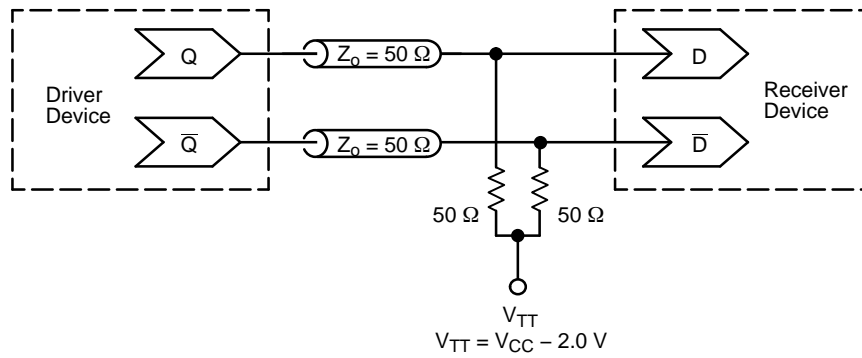
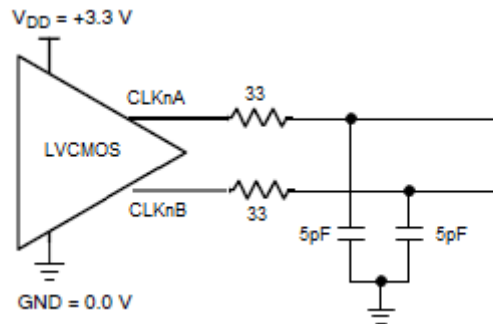

Figure 9. Typical Termination for LVPECL Output Driver and Device Evaluation (See Application Note AND8020/D – Termination of ECL Logic Devices.)
Figure 11. Typical LVC MOS Output Test Setup for Evaluation
13. Measured by using a 25 MHz crystal as clock source. All LVPECL outputs are loaded with an external $R_L = 50\ \Omega$ to $V_{DDO} - 2\text{ V}$ (Figure 9); LVCMOS outputs loaded with $R_S = 33\ \Omega$, $C_L = 5\text{ pF}$, 5" 50 Ω trace, (Figure 11).